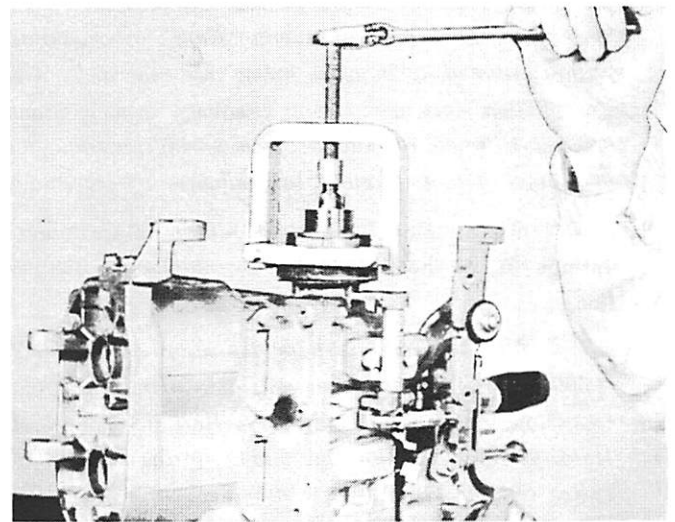

Figure 38. Removing Magneto Rotor
5. Remove magnet rotor from crankshaft with Rotating Magnet Puller (C-91-30867A1) in conjunction with Universal End Cap Puller (C-91-25733A2). (Figure 38) Insert the halves of tool plate under rotor and fasten together with plate screw. Position frame and center screw over crankshaft. Turn center screw against end of crankshaft, pulling off rotor. After removal, place magnet rotor in position in stator assembly for protection.